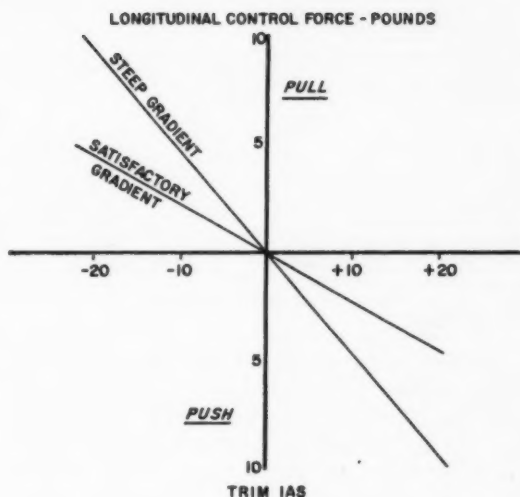

Fig. 1 — Static longitudinal stability force gradients.
**Longitudinal Static Stability.** Positive forces and position gradients with changes in airspeed have long been a specification requirement for Navy aircraft. Recent Navy jet aircraft have, in the majority, exhibited only weakly positive force and position gradients and in many cases have been below specification requirements. This is true even after exotic artificial feel systems have been incorporated to produce the desired force gradient. See figure 1 for a comparison of a low and steep gradient.